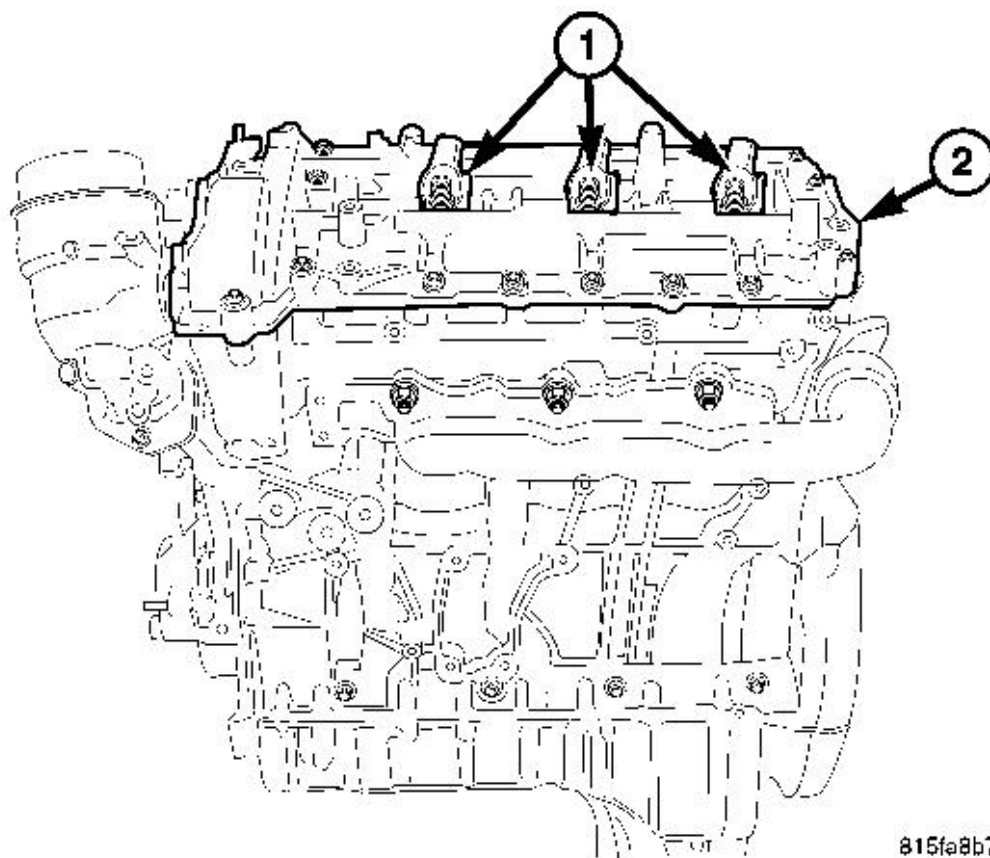

Fig. 169: Fuel Injector Body & Left Fuel Injectors
15. Remove the fuel injectors (1). See **Fig. 169**.
17. Remove the cylinder head cover (2) fasteners, note the different size fasteners for assembly.